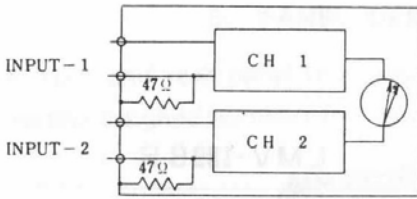
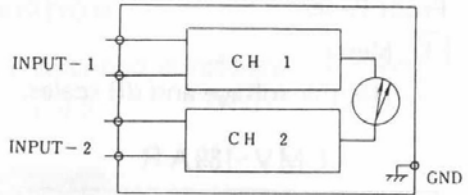

Fig. 5
Fig. 6
Is the ground terminal of the applied voltage. When the CIRCUIT GROUND switch ⑮ on the rear panel is set to the ground side marked  $\sim$ , the terminal is connected in series with a 47- $\Omega$  resistor to the unit frame as shown in Fig. 5. When the switch is set to FLOAT, the terminal is floating from the frame ground as shown in Fig. 6.
When set to , each ground terminal is connected in series with a 47-Ω resistor to the unit frame as shown in Fig. 5.
When set to FLOAT, each ground terminal is floating from the unit frame as shown in Fig. 6.